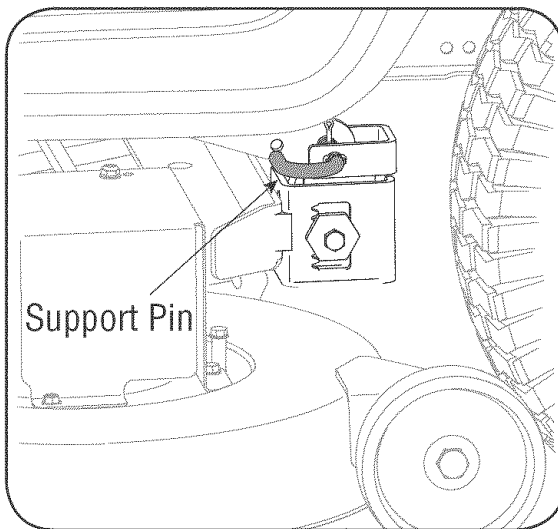

Figure 19
5. Looking at the cutting deck from the left side of the tractor, locate the deck support pin on the rear left side of the deck. See Figure 19.